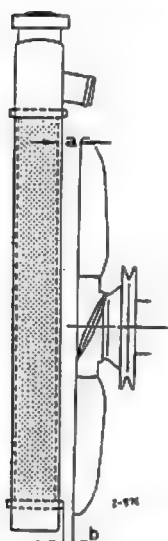

Fig. 50-1/9
10. Attach the hose clamps for the cooling water hoses and on Model 230 SL attach the bleeder hose (5) (Fig. 50-1/4).